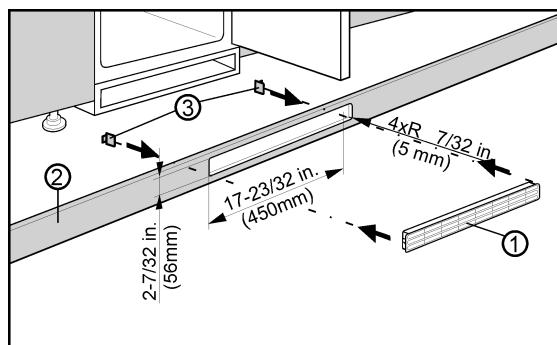

Fig. 8
Ventilation from underneath through the floor of the kitchen cabinet can be set up with the supplied ventilation grid Fig. 8 (3) or an air vent with at least a 31 in2 (200 cm2) cross section area. If you use the supplied ventilation grid Fig. 8 (1) please proceed as follows:
- Insert the ventilation grid Fig. 8 (1) into the cut out in the cabinet floor Fig. 8 (2).
- Slide the snap connectors Fig. 8 (3) into the grid from behind until the hooks touch the cabinet floor.